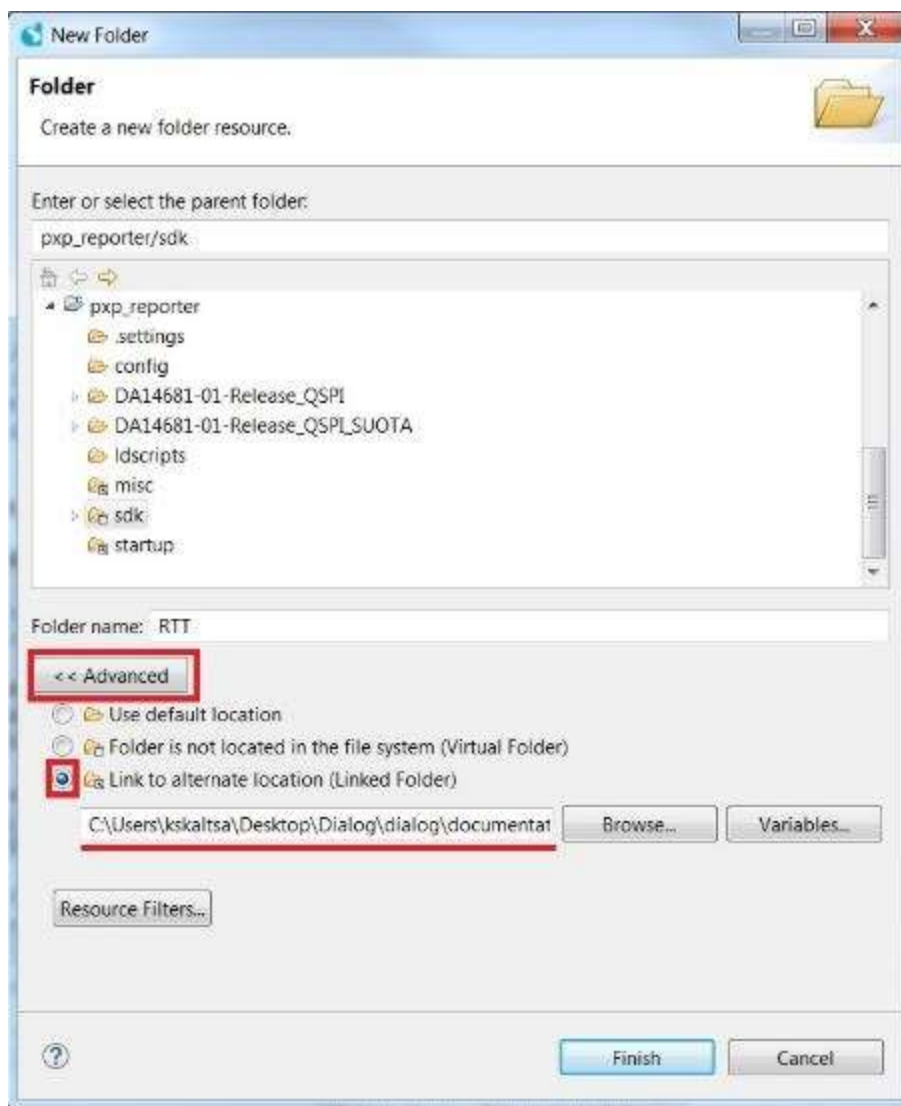

Figure 93: Select the Linker Folder
3. In the pop-up window select: **Advanced > "Link to alternate location" > Browse...** and select the `<sdk_root_directory>\sdk\middleware\segger_tools` folder as shown in Figure 93.